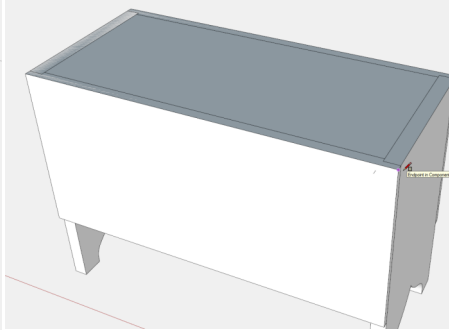

Figure 28. With the Rectangle Tool, create the covering face
Step 10 The final component is the hinged Chest Top. Use the Rectangle Tool to create a face across the top of the assembly as shown in Figure 28. Double click on the face and make the rectangle a component called Top.